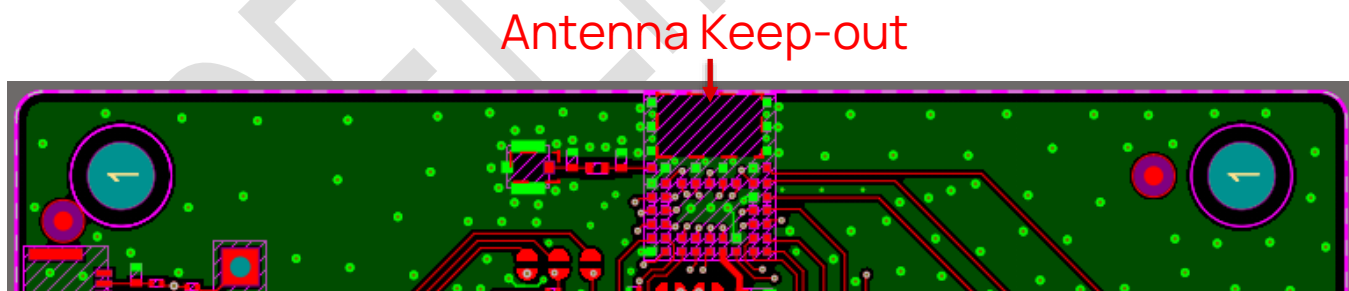

Figure 6: Chip Antenna keep-out area (shown in red) of the BL54L15 μ development board for the 453-00223 module.
- The BL54L15 μ development board (453-00223-K1) has the 453-00223 module on the edge of the board (not in the corner). The antenna keep-out area is defined by the BL54L15 μ development board which was used for module development and antenna performance evaluation is shown in Figure 6, where the antenna keep-out area is 3mm wide, 5mm long; with PCB dielectric (no copper) height ~1.75mm sitting under the 453-00223 chip antenna module.
- Host PCB land pattern and antenna keep-out for the BL54L15 μ applies when the 453-00223 is placed in the edge of the host PCB preferably in the edge center. Figure 6 shows an example.